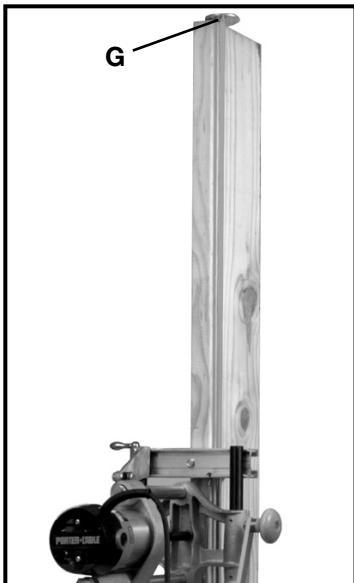
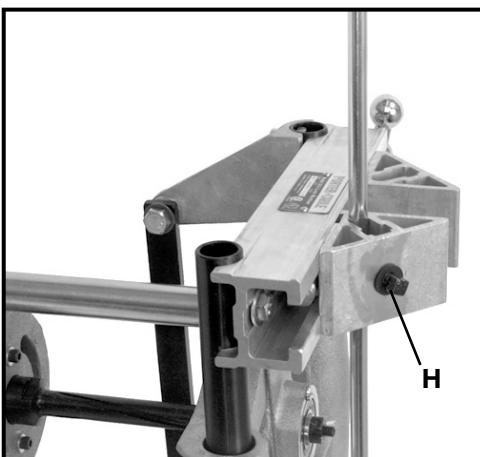

Fig. 11
Fig. 11A
If you have a number of doors with the locks at the same height, the height rod attachment (see Fig. 11) will be of great value. After you have determined the height you want, and have the lock mortiser in position on the first door, assemble the four rods that compose the height rod attachment. Insert the rods in the mortiser and place the height rod stop (G) on the top of the rod so it rests on the top of the door. Lock the height rod screws, (H) Fig. 11A. To locate the mortiser on the next door, simply place the mortiser on the door with the height rod stop resting on the top of the door and tighten the clamps. This will assure having all locks located in the same position.